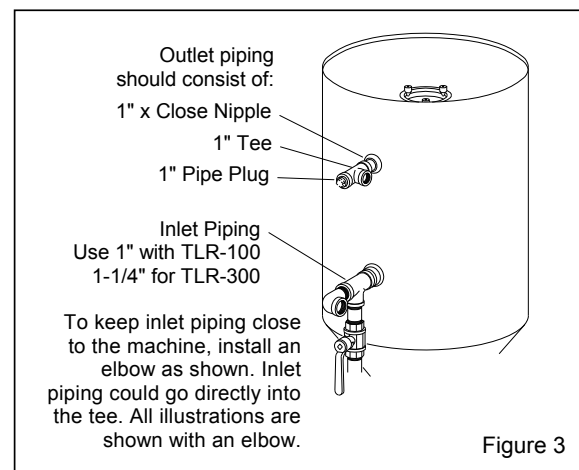

Figure 3
2.2.2 Remove the existing inlet valve and outlet valve from the machine. The machine should resemble the illustration in Figure 3. We recommend installing outlet piping as shown in the illustration.